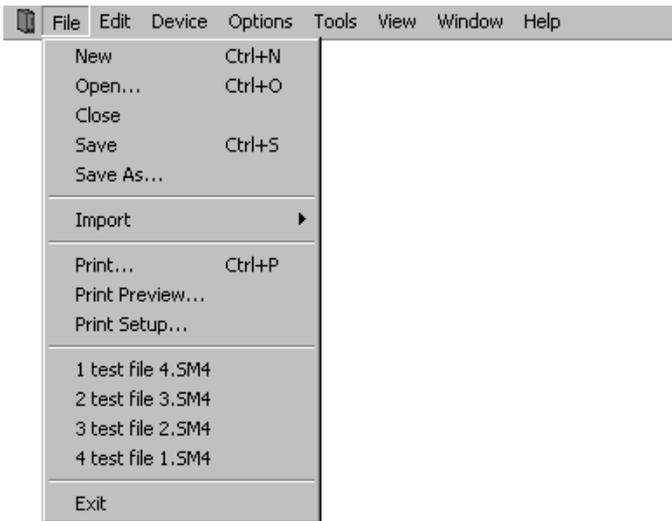

Figure 8: File Menu
- Press ALT and press the underlined letter in the menu name. Then press the underlined letter in the option name. For example, to open a new configuration file, press ALT and press F to open the File menu. Then press N for New, see Figure 8
The File menu on the Menu Bar contains many different options for file handling (e.g., saving files, importing files, etc.). Figure 8 below shows the File menu expanded.